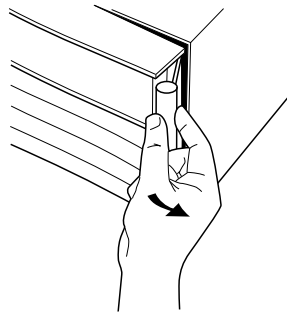

Figure 1. Opening Router Door
2. Unlock the front door of the router by pulling its lock—the round post at the upper right—to the right, as shown in figure 1, and open the door to about 90°.